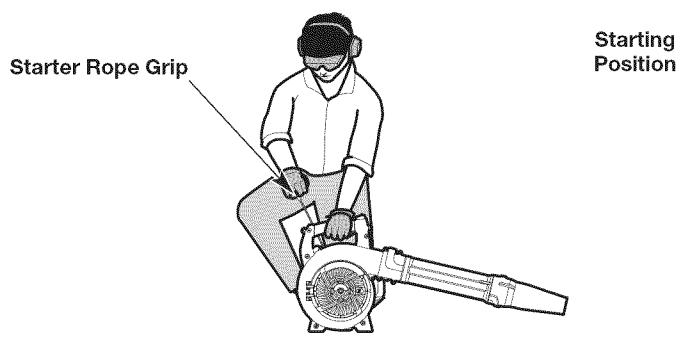

Fig. 13
**WARNING:** Avoid accidentally starting the unit. To avoid serious injury, the operator and the unit must be in a stable position when pulling the starter rope (Fig. 13).
6. **DO NOT** squeeze the throttle control. Crouch in the starting position (Fig. 13).